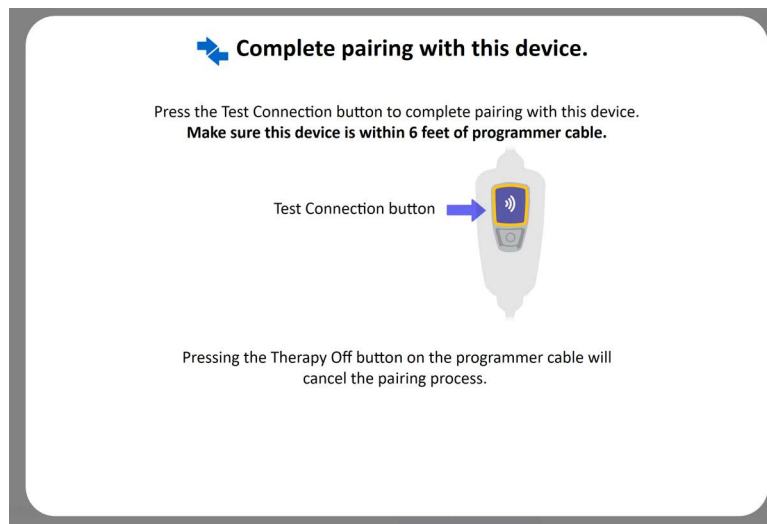

Figure 3-10. Pair a Programmer Cable Test Connection Screen
- d. The system begins searching for the programmer cable. When the programmer cable is located, the following screen displays (Figure 3-10).